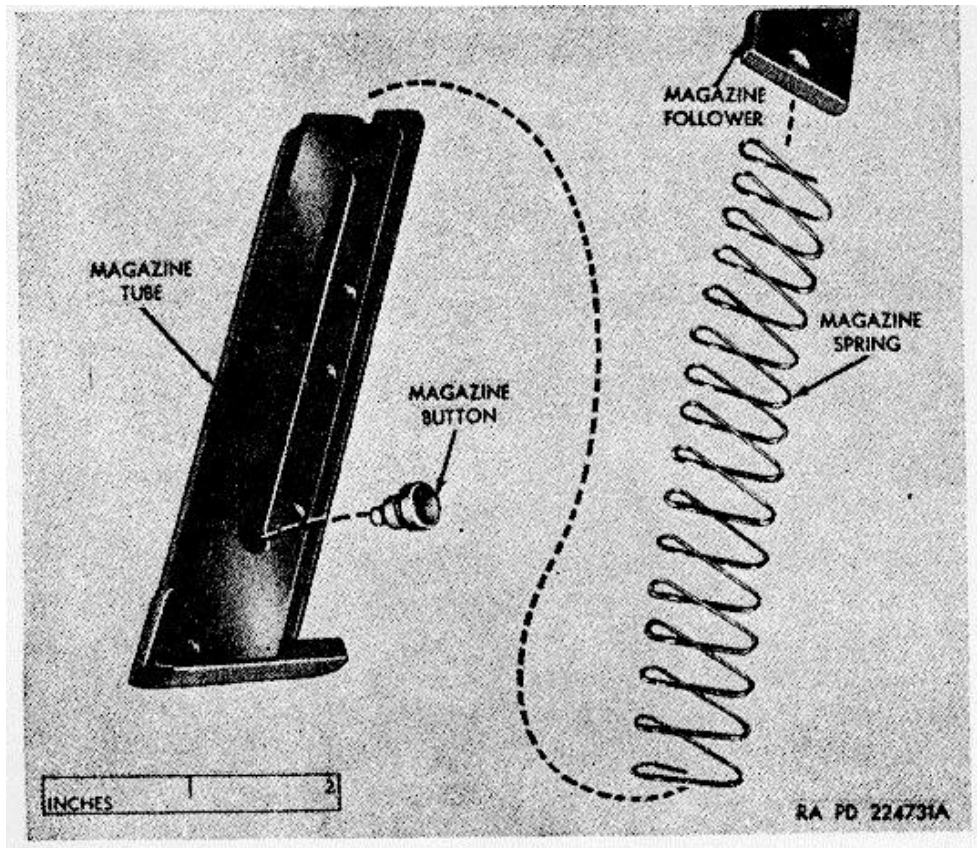

Figure 53. Magazine assembly-exploded view (high standard).
a. *General.* The magazine assembly (fig. 53) consists of the magazine tube, magazine follower, magazine button, and magazine spring.